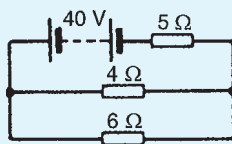

Figure 13.50
2. Use Thévenin's theorem to find the current flowing in the $6\ \Omega$ resistor shown in Fig. 13.50 and the power dissipated in the $4\ \Omega$ resistor. [2.162 A, 42.07 W]